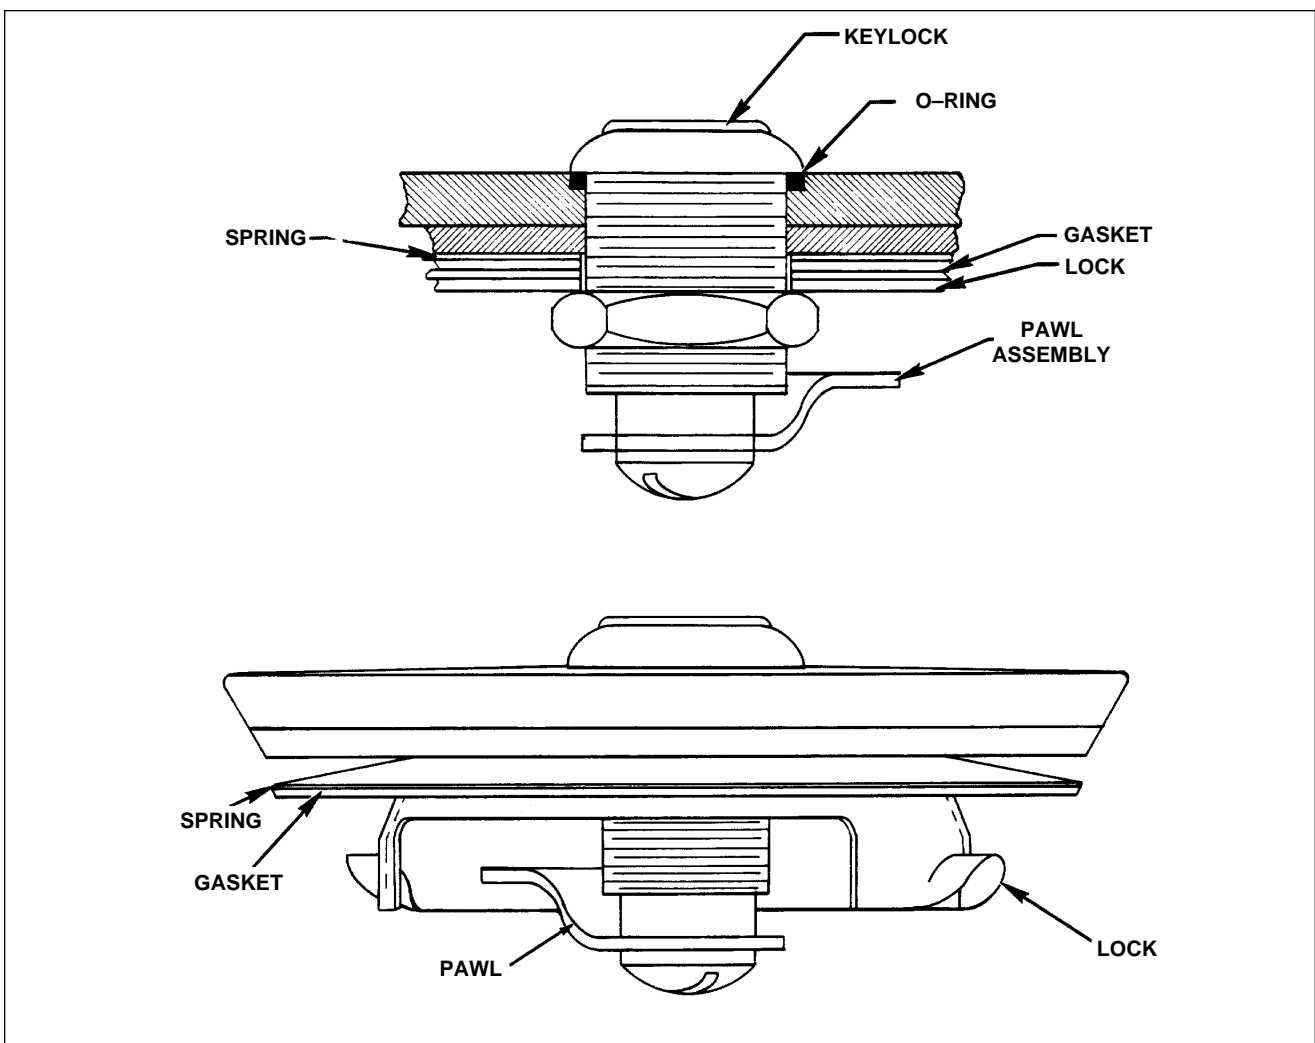

Figure 28-4. Archer III Locking Fuel Cap
a. Disassembly Of Locking Fuel Cap (Refer to Figure 28-4.)
C. FUEL FILTER BOWL AND SCREEN (Refer to Figure 28-4.)